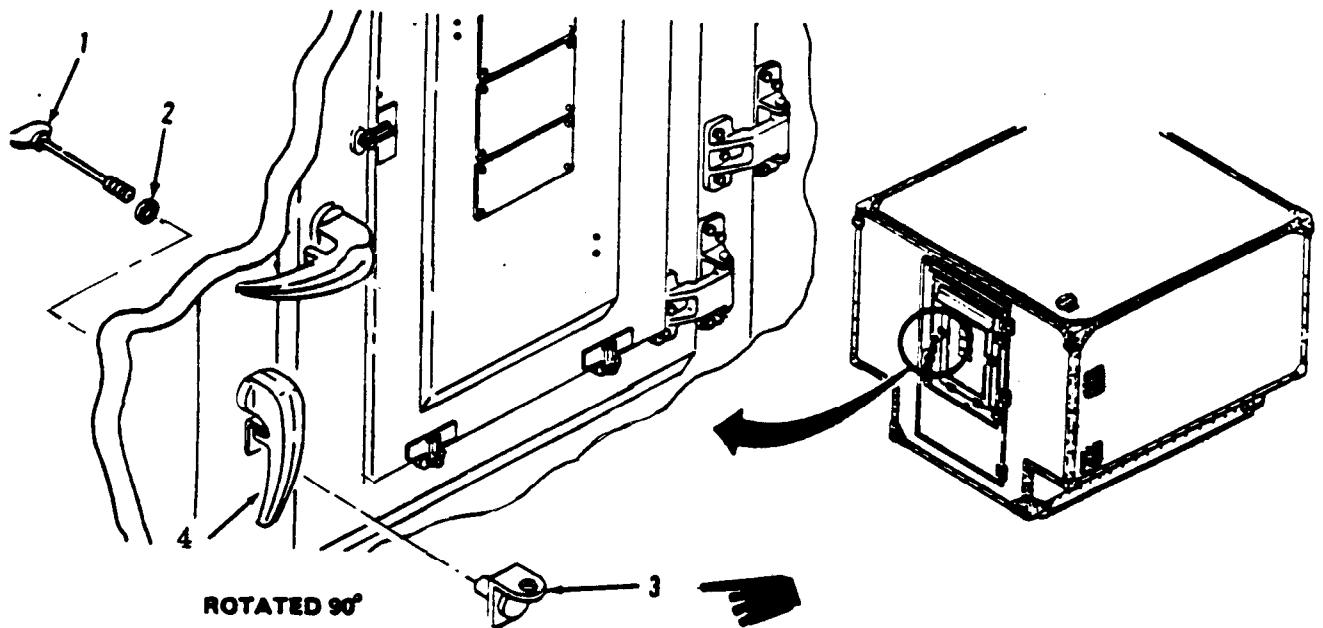

Figure 3-24. Door Hasp Replacement.
**Replace (Figure 3-24)**
- (1) Remove thumb screw (1) and crimp mesh washer (2) from inside of outer door.
- (2) Take hasp (3) off outer door.
- (3) Apply conductive compound on mounting surface of hasp (3).
- (4) Position hasp (3) on outside of outer door under handle (4).
- (5) Install thumb screw (1) with crimp mesh washer (2).
- (6) Apply a continuous bead of sealer around edge of hasp (3).